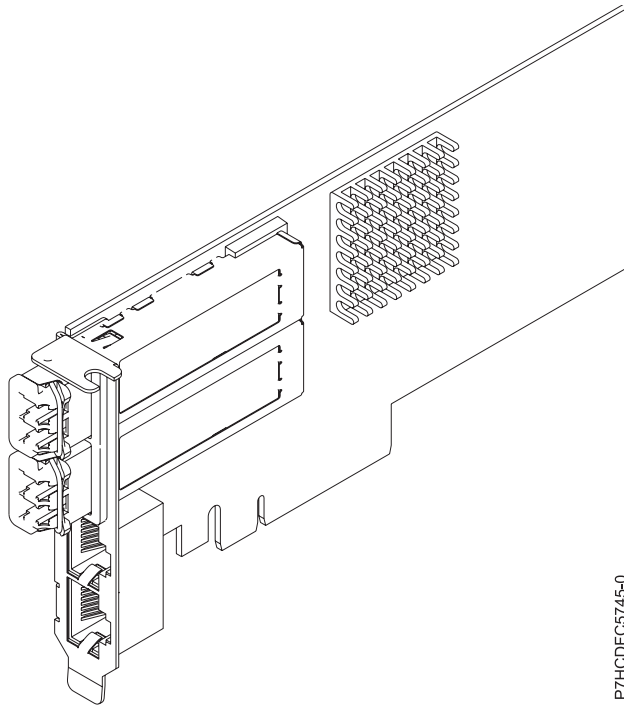

Figure 51. FC ENOL adapter
The four-port adapter provides two 10 Gb FCoE Copper Twin-axial ports and two 1 Gb RJ45 Ethernet ports. The two 10 Gb FCoE ports are connected by little connector-type (LC) connectors. Each FCoE port provides Ethernet connectivity with a nominal data rate of 10 Gbps (gigabits per second). Each of the 1 Gb ports provides Ethernet connectivity at a data rate of 1 Gbps and is connected with Ethernet cables. A 10 Mb data rate is not supported. Figure 51 on page 155 shows the FC EN0L adapter.